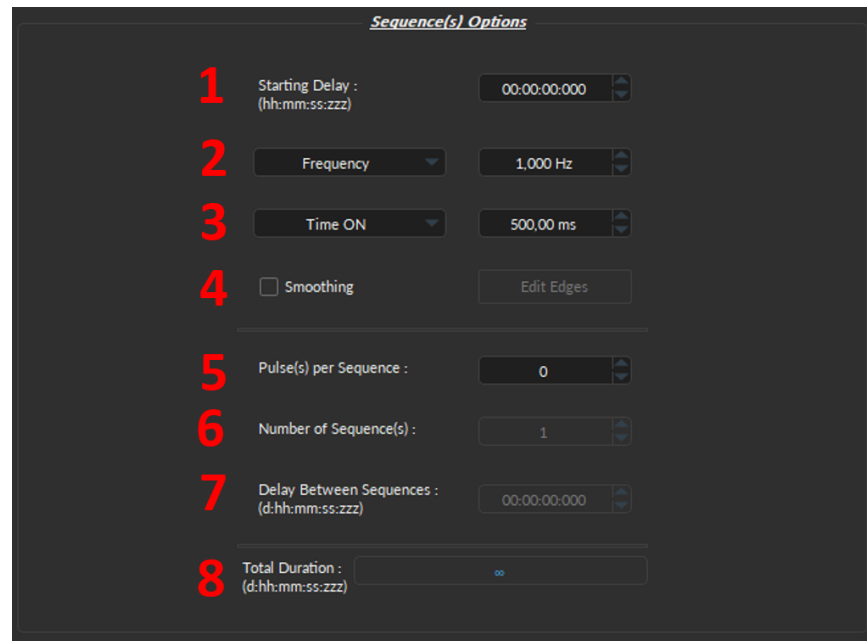

Figure 4.16: Light Source Channel Configuration Window, Square Sequence Options
1. The **Starting Delay** (Fig. 4.16) sets the delay (in hh:mm:ss:zzz format) before the first pulse.
2. The **Frequency/Period** (Fig. 4.16) sets the frequency (in Hz) or period (in ms) for the pulse sequence. For example, a signal at 10 Hz (frequency) will output one pulse every 100 ms (period), whereas a pulse sequence at 0.5 Hz (frequency) will output one pulse every 2000 ms (period).
3. The **Time ON/Duty Cycle** (Fig. 4.16) sets the time (in ms) or the duty cycle (in %) for each pulse. The **Time ON** must be lower than  $(1/\text{frequency}) + 0.005$  ms, while the **Duty cycle** must be below 100 %. These squares will appear red should an impossible **Frequency/time ON** be selected. Should the **Smoothing** option be selected, this feature becomes inaccessible.
5. The **Pulses per sequence** (Fig. 4.16) sets the number of pulses per sequence. If it is set to 0, the pulse will be repeated indefinitely.
6. The **Number of sequences** (Fig. 4.16) sets the number of times that the sequence will be repeated. If it is set to 0, the sequence will be repeated indefinitely.
7. The **Delay between sequences** (Fig. 4.16) sets the delay (in hh:mm:ss:zzz format) between each sequence if the **Number of Sequences** is greater than 1.
8. The **Total Duration** (Fig. 4.16) displays the total time of the experiment. The different values can be *Inf* for infinite, a valid time value or *Err* if the **Time ON** value is greater than 1/frequency.